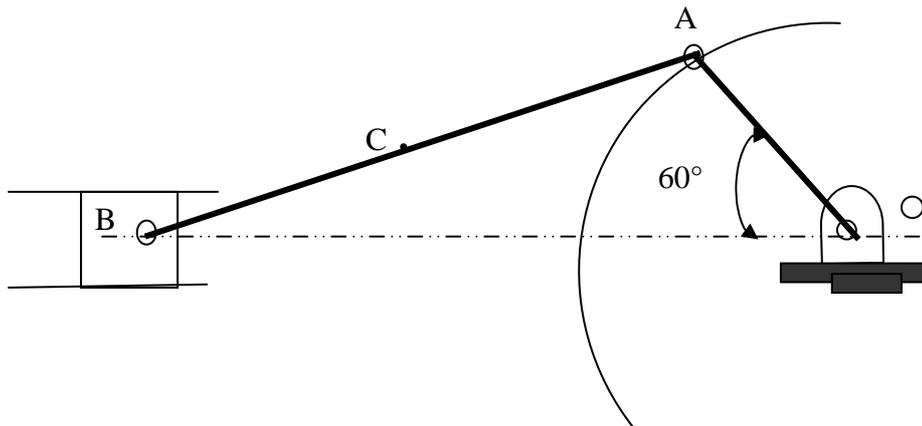

Figure 7
- The engine mechanism of Figure 7 has a crank 200 mm long and connecting rod 500 mm long. If the crank speed is 50 rev/s clockwise, find for the position shown: